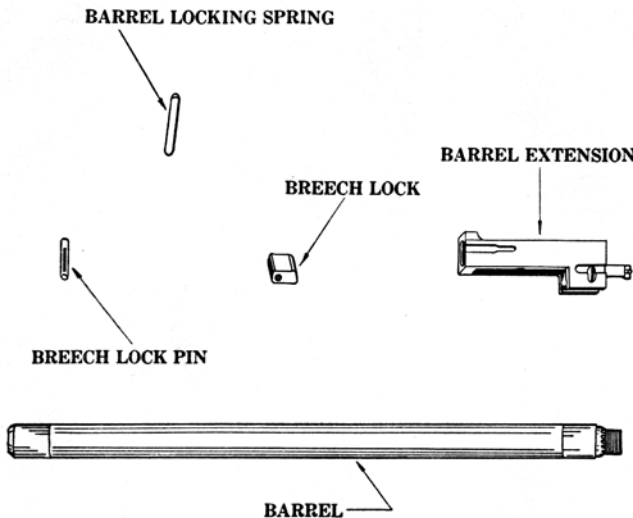

FIGURE 7. — Barrel and barrel extension group.
■16. DETAILED DISASSEMBLING OF BARREL EXTENSION (fig. 7).